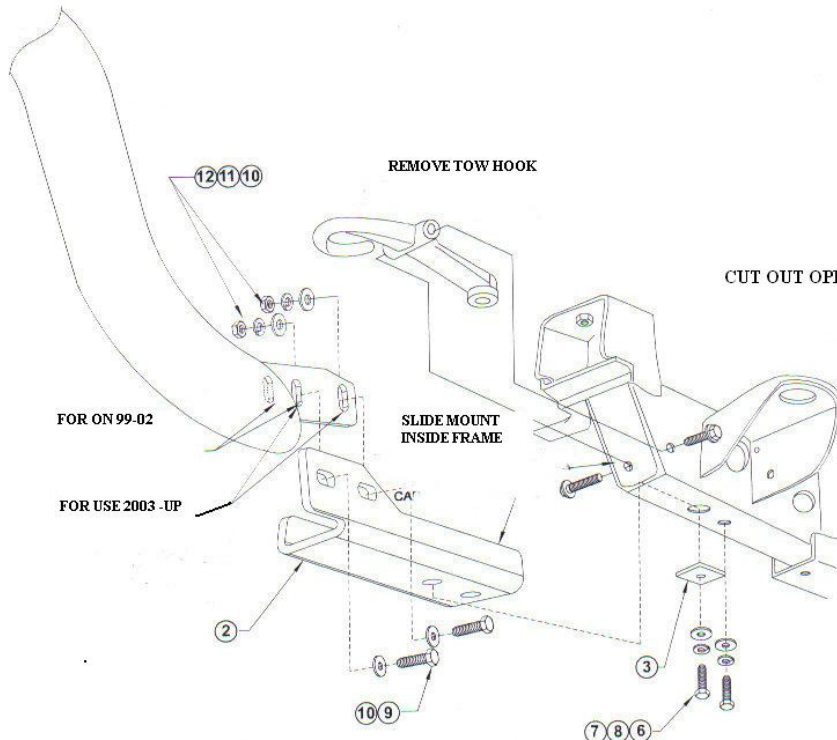

FIGURE 2 INSTALLATION OF PASSENGER SIDE- DRIVER OPPOSITE
STEP 4 ATTACH HOOP MOUNTS BRACKETS TO FRAME BRACKETS USING 3/8" FASTNERS AS SHOWN . **NOTE:** 1999-02 MODELS USE FRONT AND MIDDLE HOLES ON THE LOOP MOUNTING BRACKETS. 2003 UP MODELS USE MIDDLE AND REAR HOLES. SEE FIGURE 2.